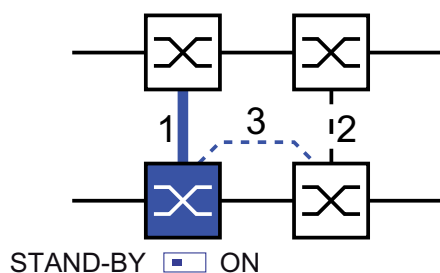

Figure 37: Two-Switch coupling with control line
- Select „Two-Switch coupling with control line“ by means of the dialog button with the same graphic as below (see figure 37).